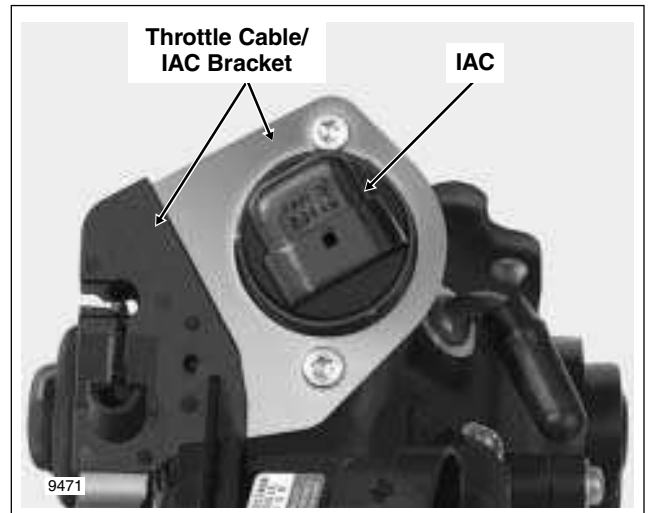

Figure 9-33. Remove Screws to Release Bracket
2. Remove two T20 TORX screws to release throttle cable/IAC bracket from induction module. Discard screws. See Figure 9-33.
4. Align holes in throttle cable/IAC bracket with thru holes in flange of IAC. See Figure 9-33.
5. Install two **new** T20 TORX screws and alternately tighten to 20-35 **in-lbs** (2.3-4.0 Nm). See Figure 9-33.